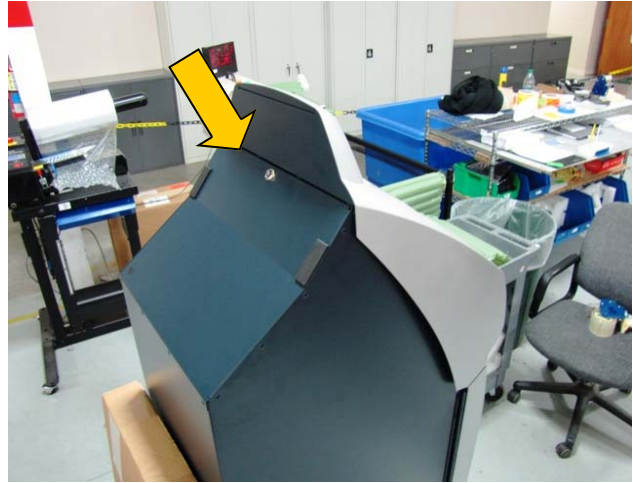

Figure 8
8. Line up the four bolt openings (Figure 8) with the four holes in the pallet. Use the 4 bolts and four washers to secure it to the pallet.